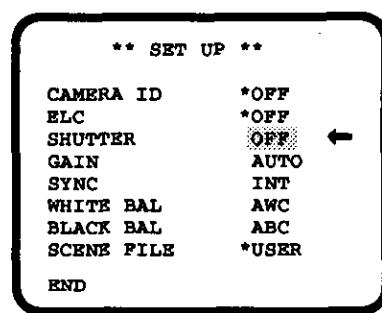

Fig.26.
- Display the SETUP menu as shown in Fig.26.